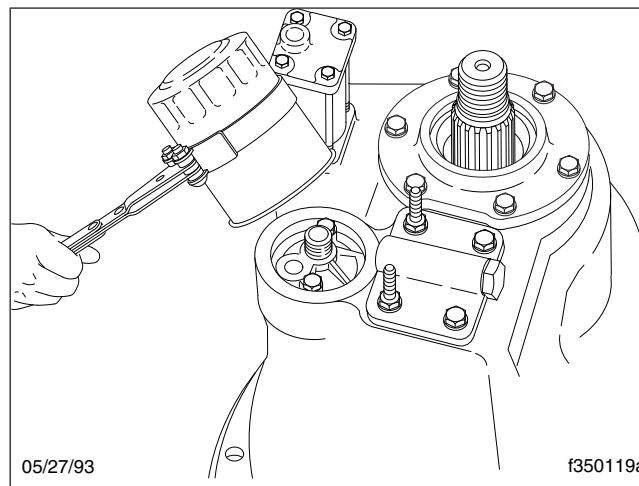

Fig. 3, Meritor Axle Oil Filter Removal
3. If equipped with an oil pump, use a suitable filter strap wrench to remove the axle oil filter. See Fig. 3. Discard the old filter.